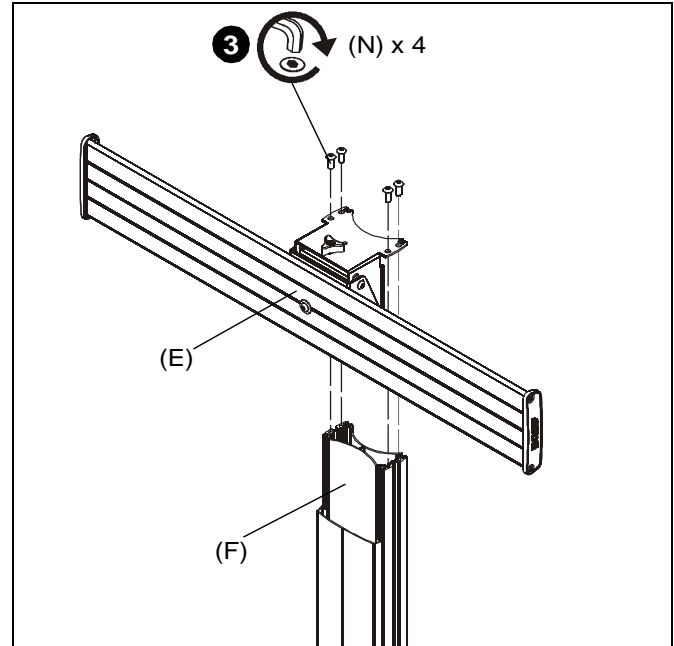

Figure 3
3. Use four 5/16-18 x 3/4" button head cap screws (N) to secure interface head assembly (E) to column assembly (F). (See Figure 3)